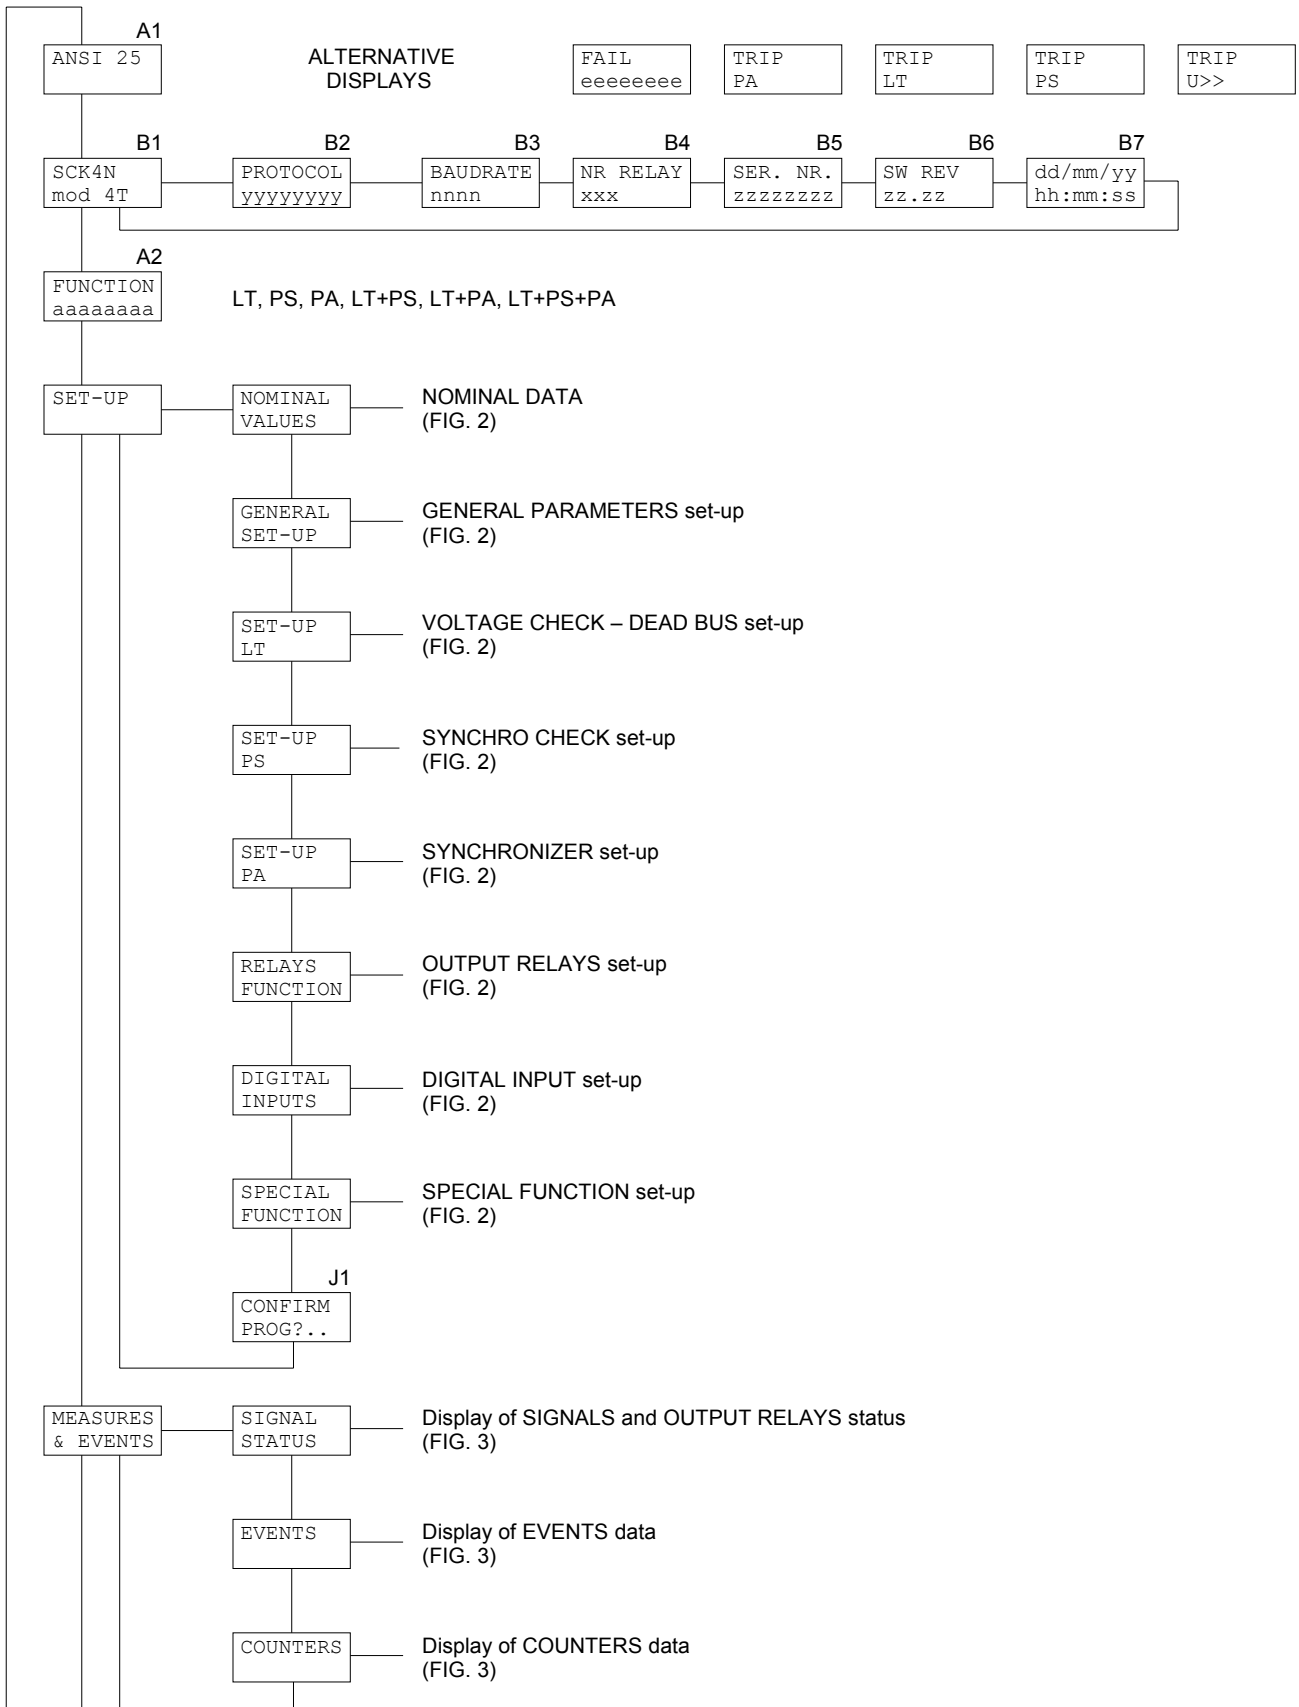

Figure 1
The programmable parameters are showed in Figures 1, 2 and 3 at the following references:
- 5) **CONFIRM** the new protection relay set-up at the visualization CONFIRM PROG? (Fig. 1, ref. J1) within 5 minutes depressing the push-buttons [ENTER],  up to visualize **YES** and [ENTER] again to confirm.
- display on STANDARD MODE (Fig. 1, ref. A1 - par. 5.1)
The contents and the structure of the displayed messages are shown in figures 1, 2 and 3; the references A1, B1, B2 etc. identify specific displayed messages in the figures.
### 5.3 Operating modes (fig. 1)
### 5.4 Address and time (fig. 1)
### **5.5 Nominal values set-up (fig. 1)**